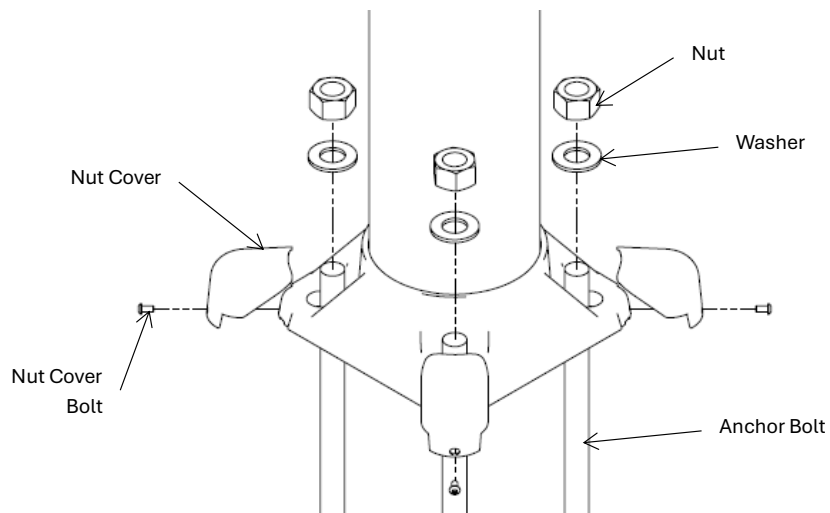

Fig. 15-1: Anchor Nuts and Washers and Nut Covers
2. Use a 1-5/8 wrench to install the nut and washers to secure the pole to the anchor bolts (refer to Figure 15-1).
3. Use a 5/32 hex key to install the nut covers using the provided bolts (refer to Figure 15-1).